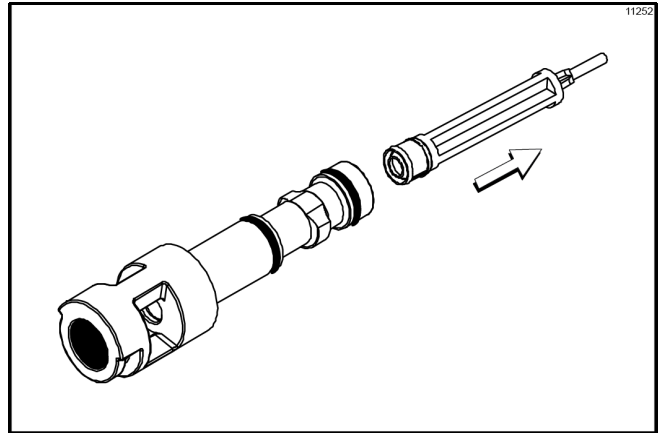

Figure-102
- Remove the driven spinner from the draw valve by grasping the draw valve and pulling the driven spinner out. Remove the spinner shaft seal. (See Figure-102.)